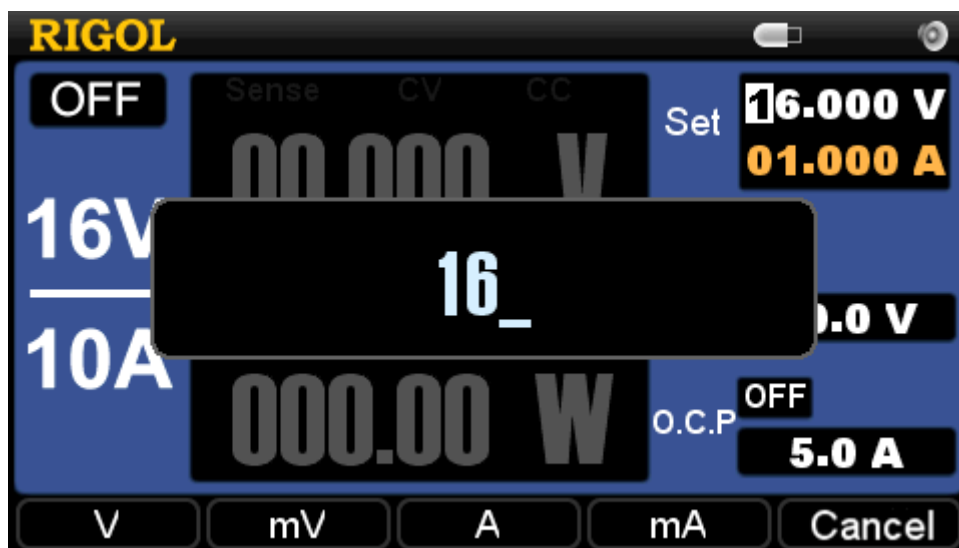

Figure 2-5 Voltage setting
4. Voltage setting: press **Volt** and set the voltage to 16 V, see Figure 2-5.